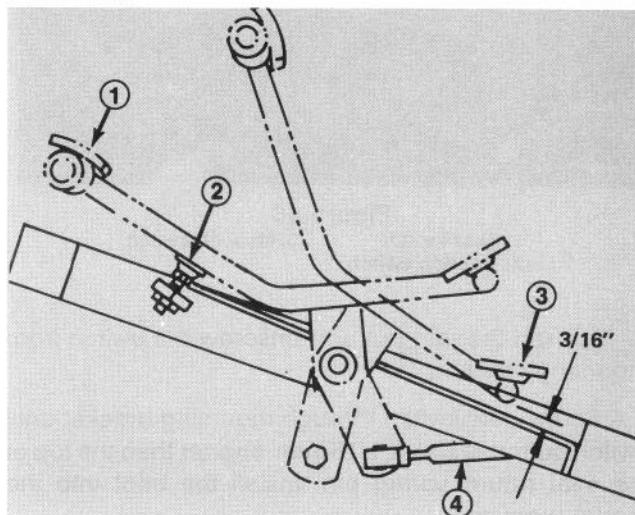

Figure 47
ADJUSTING TRACTION PEDAL (Fig. 47)
2. Check distance between bottom of pedal and footrest as shown in Fig. 47. Distance should be approximately 3/16". If distance is greater or less than 3/16" dimension, an adjustment to the traction control rod is required.